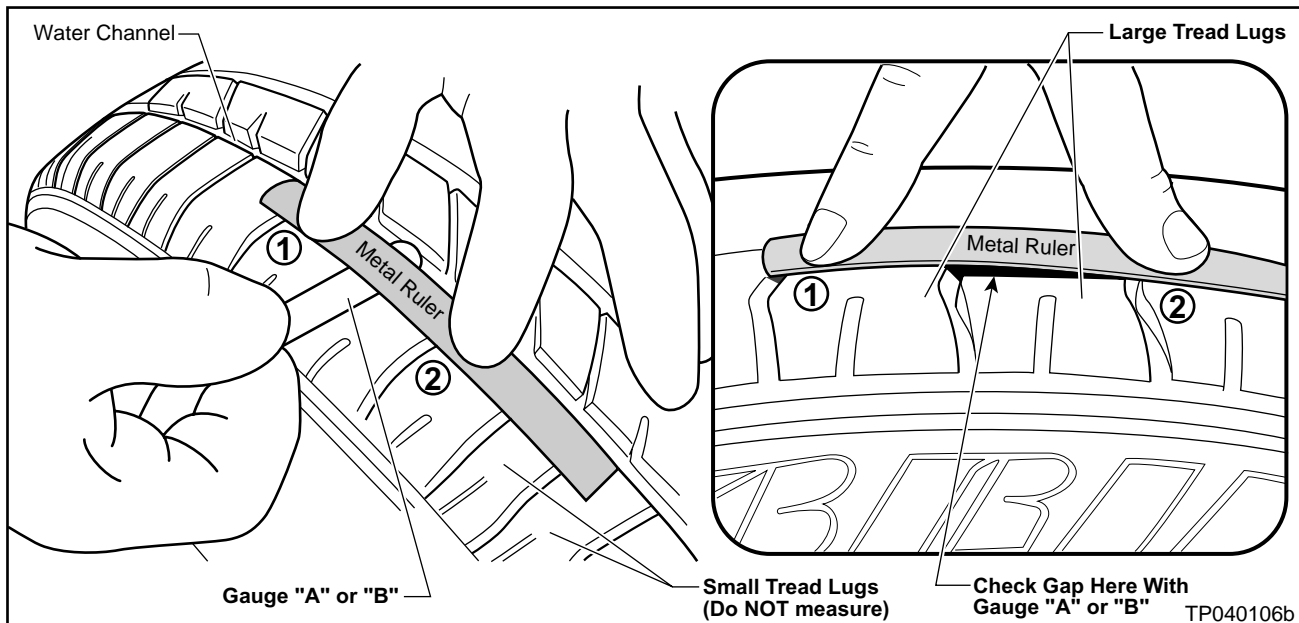

Figure 3
- B. At each location that you just marked, use **Gauge "A"** (0.45 mm) to check the height difference between two large tread lugs (closest to each reference point A, B, C, D) as follows. See Figure 3.
- Don't measure the small tread lugs (see Figure 3). **ONLY** measure large tread lugs.
- 1) Lay the metal ruler across two large tread lugs and along the edge of the Water Channel (see Figure 3).
- 2) Firmly press down on the ruler at the number 1 and number 2 positions as shown in Figure 3.
- 3) Use **Gauge "A"** (0.45 mm) to check the height difference between the two tread lugs (see Figure 3).